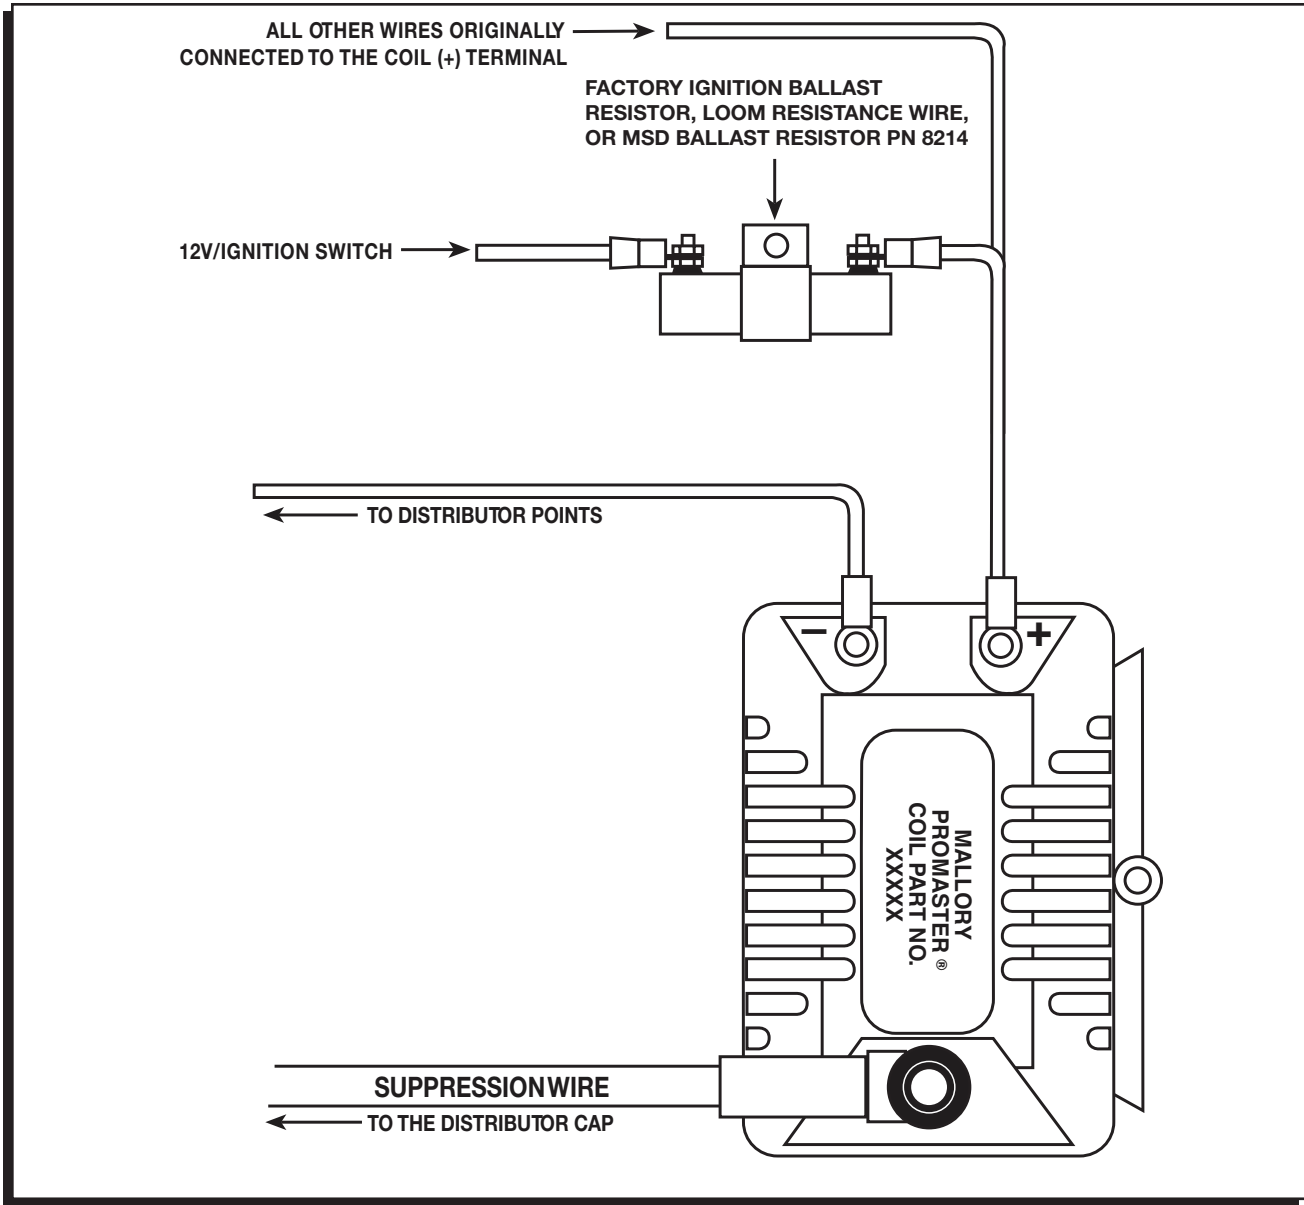

Figure 1 Breaker Point Ignition - Single or Dual Points
- Step 3:** Slide the coil wire into the coil wire boot. Install the coil wire on the high voltage terminal. See Figure 1.